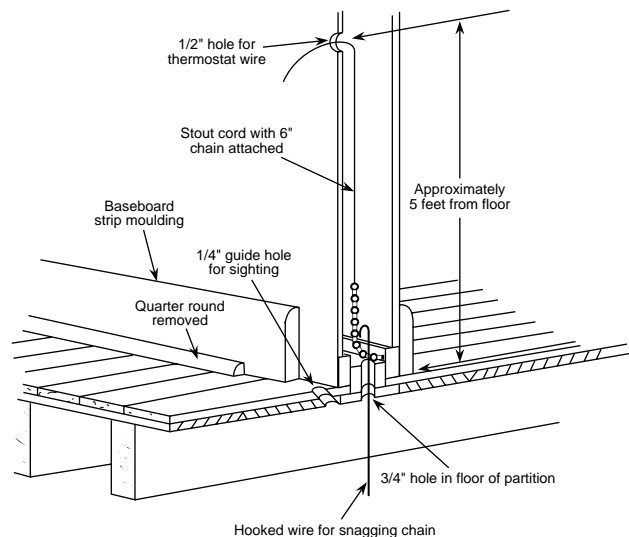

Figure 1. Routing thermostat wires
3. Probe for obstructions in partition before drilling  $\frac{1}{2}$ " hole in wall at selected location. Take up quarter round and drill a small guide hole for sighting (see fig. 1). From basement, drill  $\frac{3}{4}$ " hole in partition floor next to guide hole. In houses without basements, drill  $\frac{1}{2}$ " hole through ceiling and into partition from above (see fig. 1).